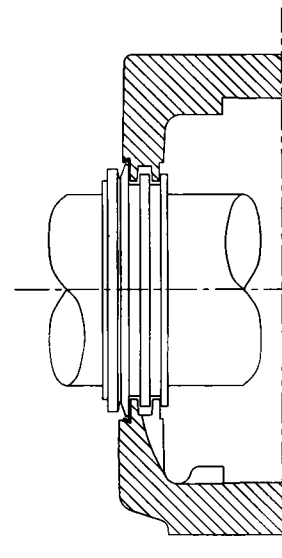

Figure 3c
7. Pack housing cap seal grooves with grease then install on base. While lowering the cap into the base make sure the metal seals with rubber bead line up with the outboard "V"-shaped cap grooves (Figure 3c). Tighten cap bolts to the proper torque value. The rubber bead forms a positive seal in the "V"-shaped outer groove of the housing.